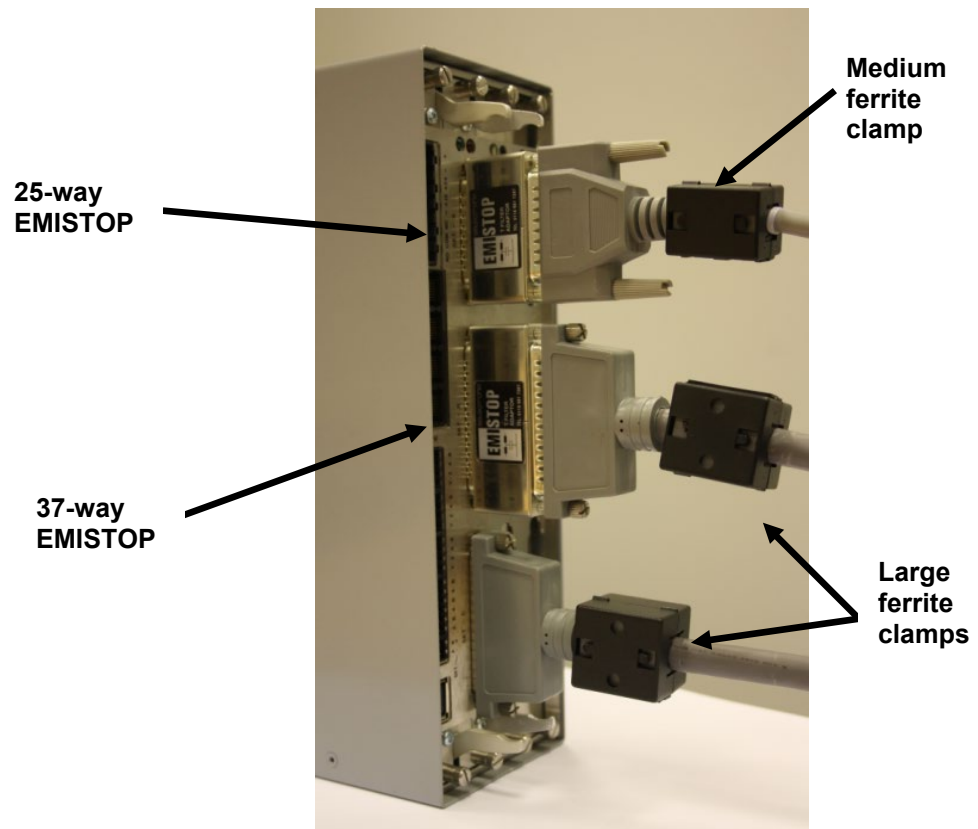

Figure 2-14. Clamps on I/O Module Wiring
4. Place and secure the 25-way and 37-way EMISTOP adaptors (see *Figure 2-13*) onto, respectively, sockets A and B on the I/O module (see *Figure 2-14*).
6. Attach a small ferrite clamp onto the wiring to socket A on the I/O module. Attach large ferrite clamps onto the cables to sockets B and C (see *Figure 2-14*).